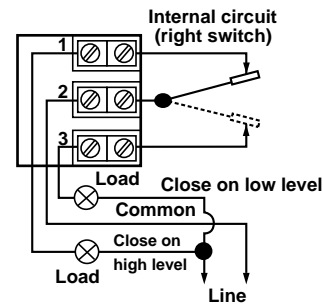

Figure 1 – SPDT terminals
3. Wire the switch as shown in **Fig. 1 & 2**:
- a. SPDT switch – see **Fig. 1**.
9. Replace the control wires on the appropriate terminals or wiring leads of the new HS switch. See **Figures 1, 2 or 3** as necessary.